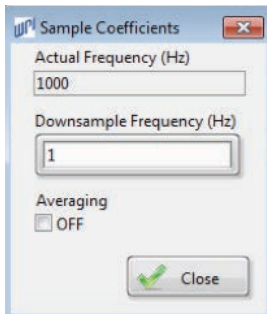

Fig. 69—The *Sample Coefficients* window lets you establish the parameters of your filter.
1. To down sample the data to a specific sample frequency, click on the **Filter** menu (of the *Analysis* window) and select **Downsample Data**. The *Sample Coefficients* window appears (Fig. 69).